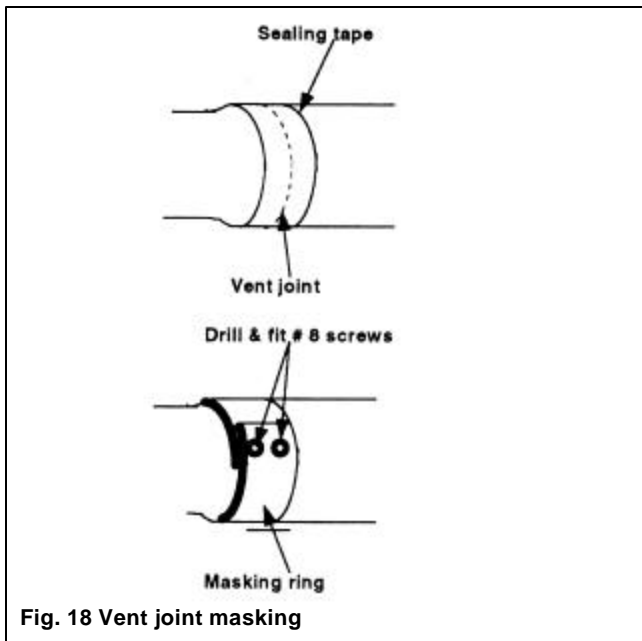

Fig. 18 Vent joint masking
10.18 Seal the joint between the elbow and the terminal with the sealing tape supplied (see figure 18).
collar. Mark the sealing tape at the position of the holes (see figure 18).
10.21 Place the masking collar back in position. Squeeze as tight as possible and fix over the vent joint with two #8 tapping screws (see figure 18).